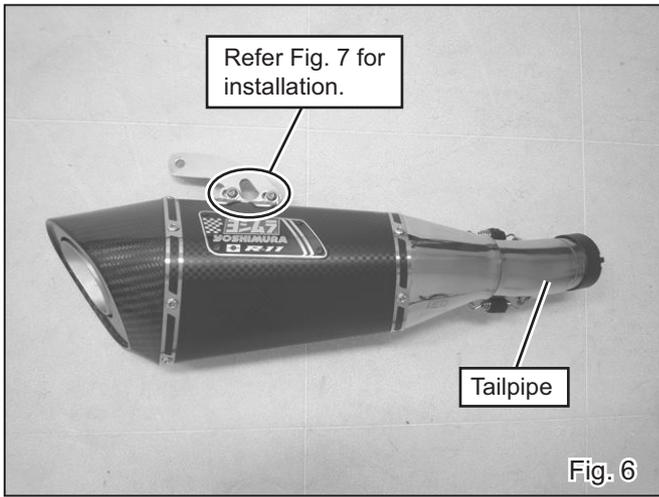

Fig. 6
7) Attach Silencer Bracket onto Silencer Assy with 2 of each Button Bolt M6x20, Washer M6x13 and Flange Nut M6 (See Fig. 6 & 7). Tighten the bolts by hand only at this stage.
8) Install Silencer Assy to Tailpipe and fix them with 2 of Exhaust Spring (See Fig. 6 & 7).